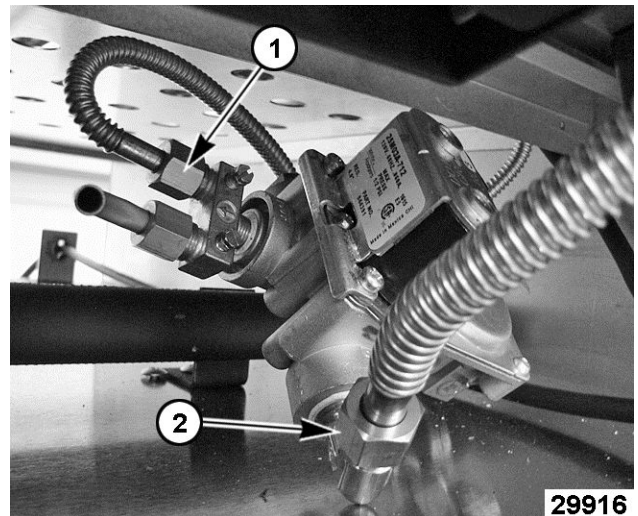
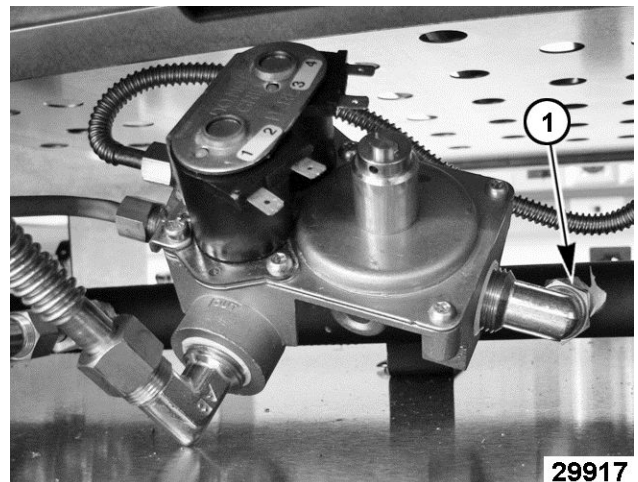

Fig. 13
Fig. 14
4. Disconnect pilot compression fitting nut (1, Fig. 13); and the compression fitting nuts for the gas outlet (2, Fig. 13) and inlet (1, Fig. 14) connections on the gas valve. Remove gas valve from griddle.